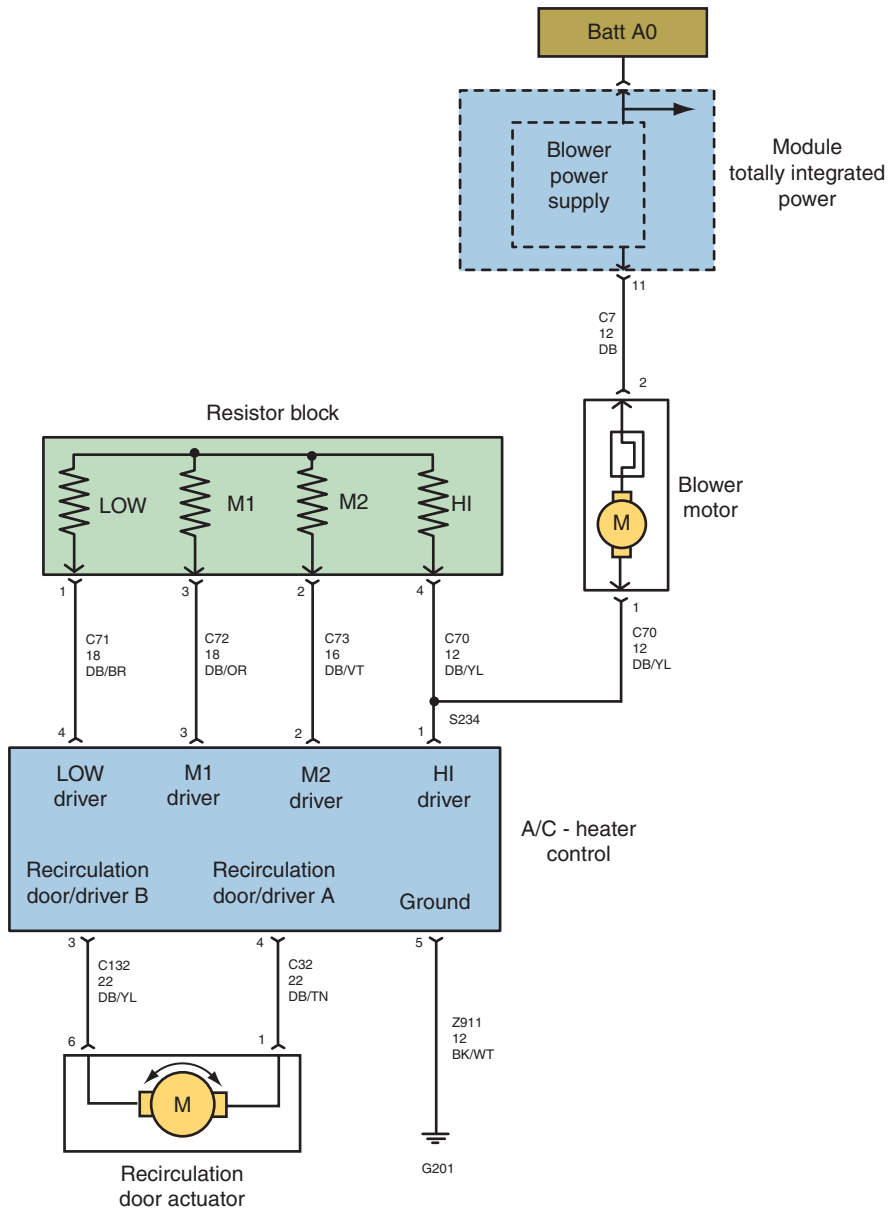

FIGURE 4-34
8. Referring to Figure 4-34, how is the blower speed controlled?